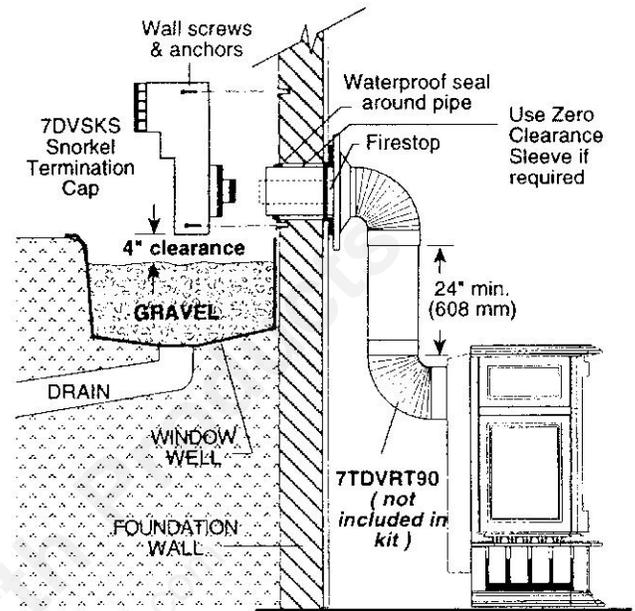

Figure 3-25. Snorkel Kit 7DVSKS installation.
Snorkel Vent Kit #7DVSKS should be installed when it is not possible to meet the required vent termination clearances of 12 inches (305mm) above grade level. The snorkel kit will allow installation depth of down to 7 inches (178mm) below grade level. The 7 inches is measured from the center of the horizontal vent pipe as it penetrates through the wall. **If the venting system is installed below ground, a window well must be installed with adequate and proper drainage. See Fig. 3-25.**
A minimum 24" (608mm) vertical pipe must be installed when using the 7DVSKS Snorkel Kit. See Fig. 3-25.
2. Remove soil to a depth of approximately 16" below the base of the snorkel. Install a window well (not supplied). Refill the hole with 12" coarse gravel and maintain a clearance of at least 4" below the snorkel. See Fig. 3-25.